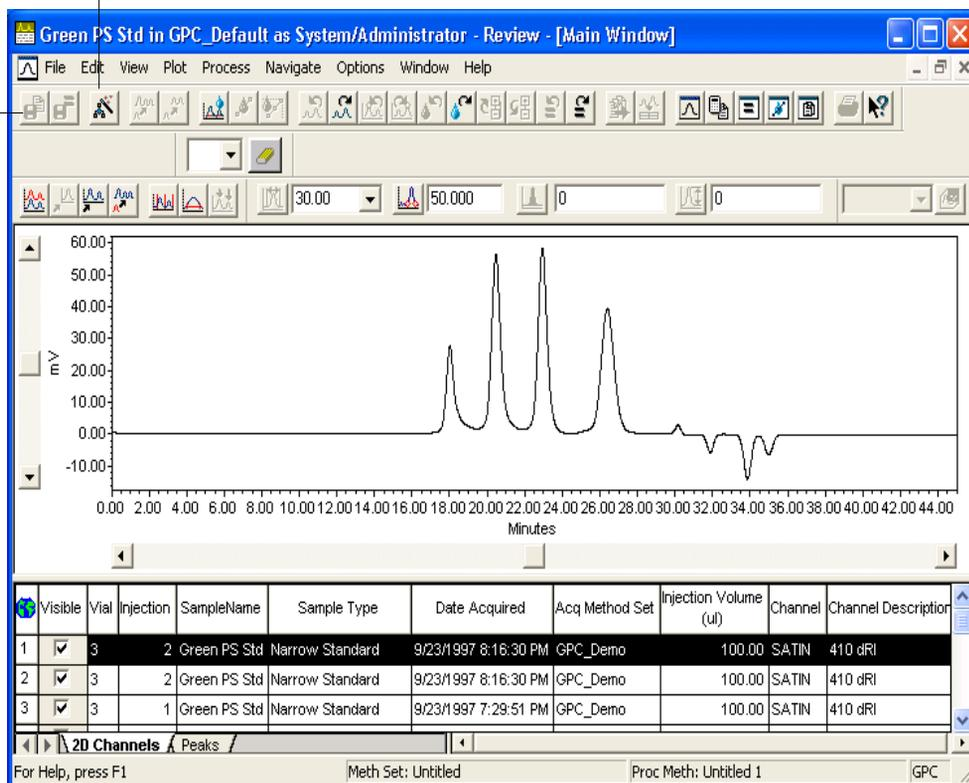

Figure 2-3 First Injection Displayed in the Review Main Window
7. Click the **2D Channels** tab (Figure 2-3).
Note: To determine the narrow standard with the highest molecular weight, click **Overlay** (Figure 2-3) to overlay the standard chromatograms. Click the chromatogram with the earliest eluting standard peak, then click **Overlay** again to turn off the overlay function. The standard with the highest molecular weight (one of the Green PS standards for this data set) is selected in the 2D Channels table.
9. Click **Processing Method Wizard** (Figure 2-3). The Processing Method Wizard dialog box appears (Figure 2-4).
3. Click **Review** to bring the selected standards into Review. The first channel from the Green PS standard appears in the chromatogram plot and 2D Channels table of the Review Main window (see Figure 2-3). Notice that this channel contains data from the second injection of the narrow standard Green PS Std.